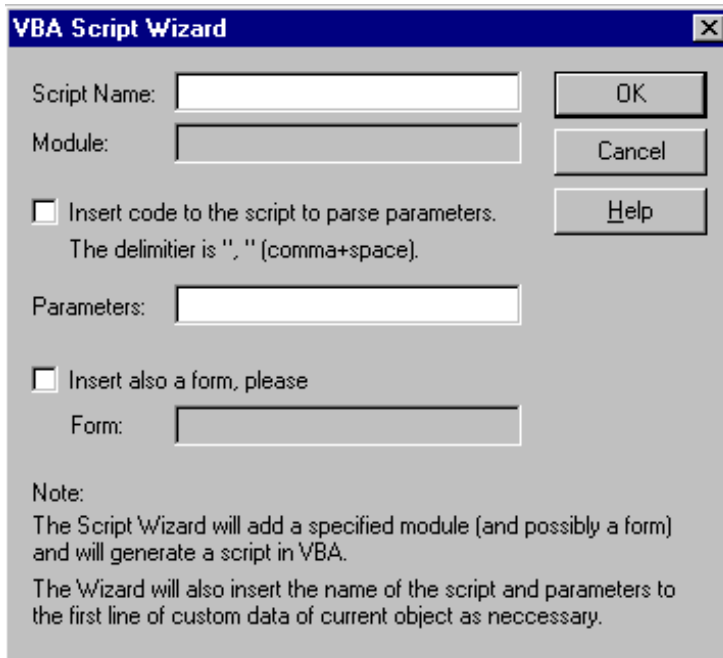

Figure 12-6: VBA Script Wizard Dialog Box
2. On the Tools menu, select Macros > Create Macros. The VBA Script Wizard dialog box appears (Figure 12-6).